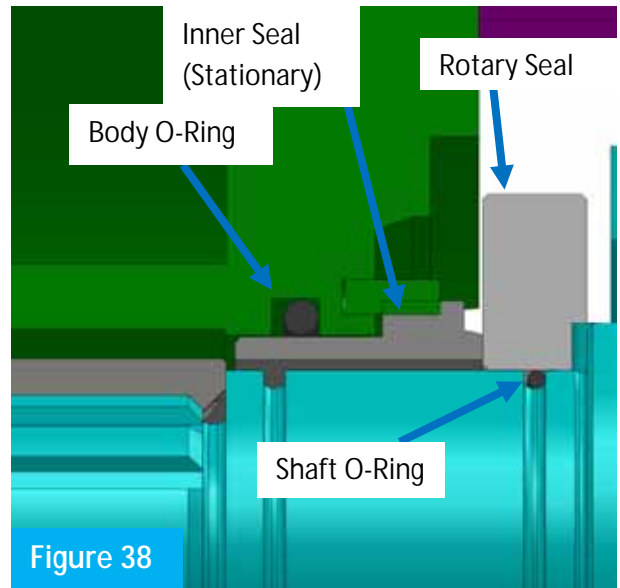

Figure 38
4. Use o-ring pick to remove o-ring from each shaft, Figure 38.